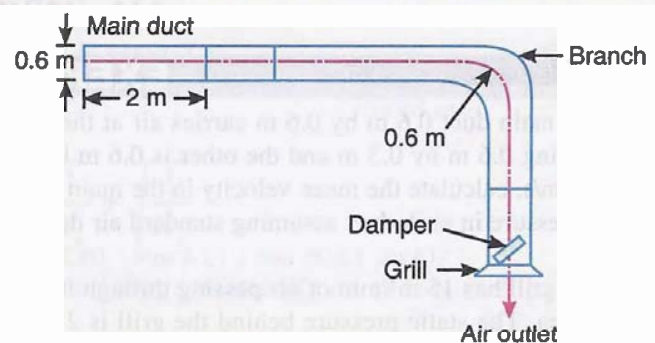

Fig. 20.28
8. A main air duct of constant rectangular cross-section 2 m by 0.6 m has several branch pieces leading off it. One of these branches is shown in Fig. 20.28. The branch leaves the main at right angles and has a 90° bend in it of radius 0.6 m, as well as a damper for flow regulation and an exit grill. The branch is 0.6 m by 0.3 m and 3 m long. The flow through the main duct before this off take is 750 m3/min and the flow required in the branch is 90 m3/min. Calculate the